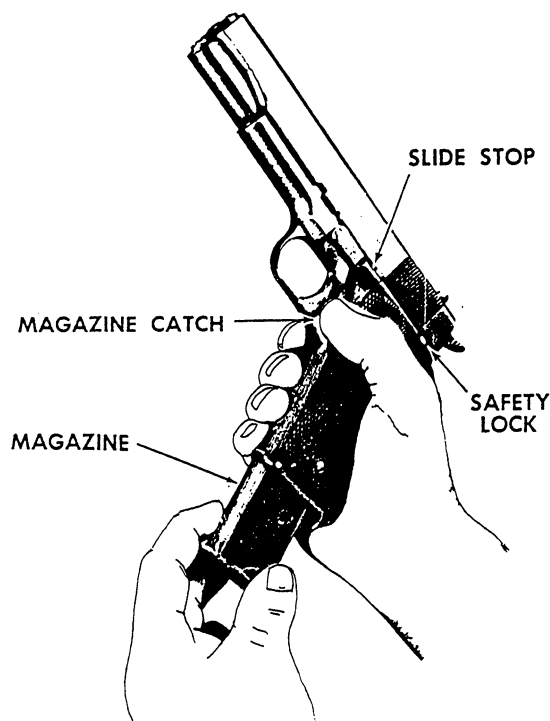

Figure 3-30.—Magazine removal and chamber inspection for a right-handed firer.
in figure 3-30, for a right-handed firer. The left-handed firer should reverse hands for this procedure. Pull the slide to the rear and inspect the chamber to see that the weapon is clear. Press down on the slide stop and allow the slide to move forward. Press the thumb safety lock upward to the SAFE position.
7. **MAGAZINE.** Insert the magazine into the magazine recess of the pistol until it is fully seated and held by the magazine catch. (See fig. 3-30.) This completes the pistol assembly.